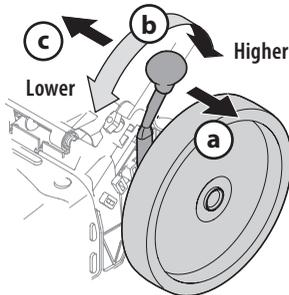

Figure 1
- Adjust the rear wheel to the highest setting to expose lower handle mounting holes on each side of the mower deck (Figure 1).